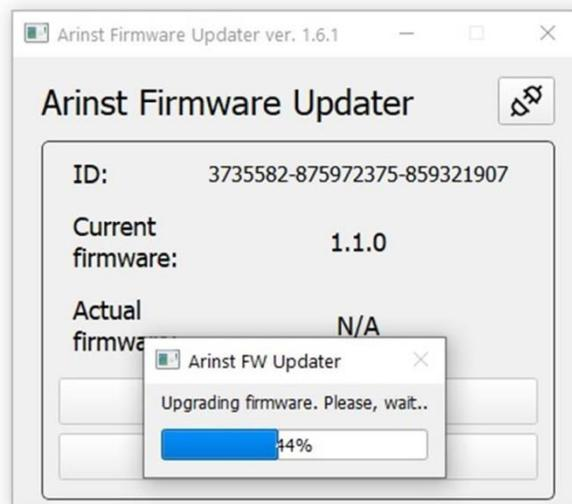

Figure A2.9 – The process of downloading updates
2.9. During the firmware update of the device, the window will appear with the download progress (Figure A2.9).